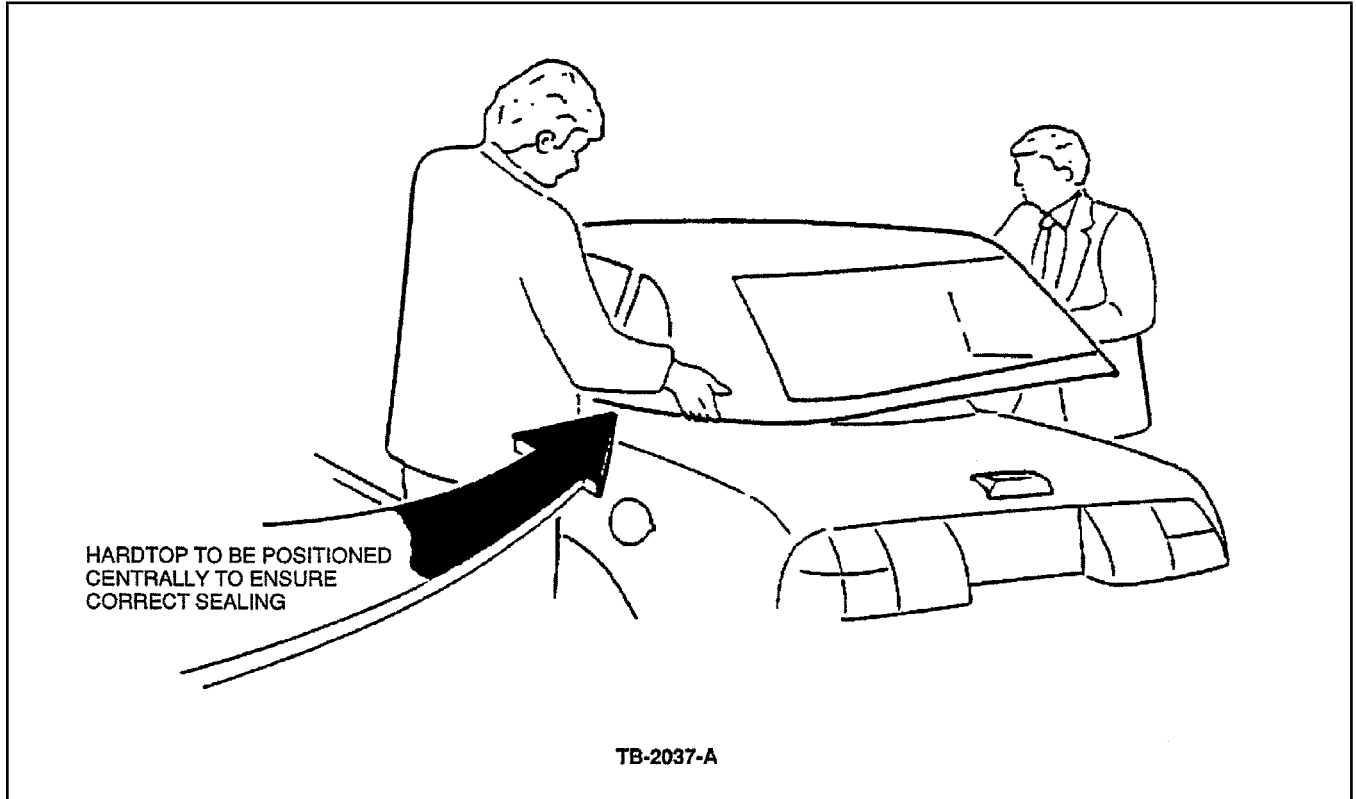

Figure 8 - Article 91-20-2
10. With a person at each window opening, using both hands for balance, carefully lift and install the hardtop into position. Ensure that mating holes in windshield header are aligned and locating spacers are positioned over locating pins on the left and right hand sides, Figure 8.
12. Make sure the hardtop is positioned centrally to ensure correct sealing, Figure 8. Then, tighten the locating spacers (8mm Hex) to a torque of 19 lb.ft. (25 N•m).